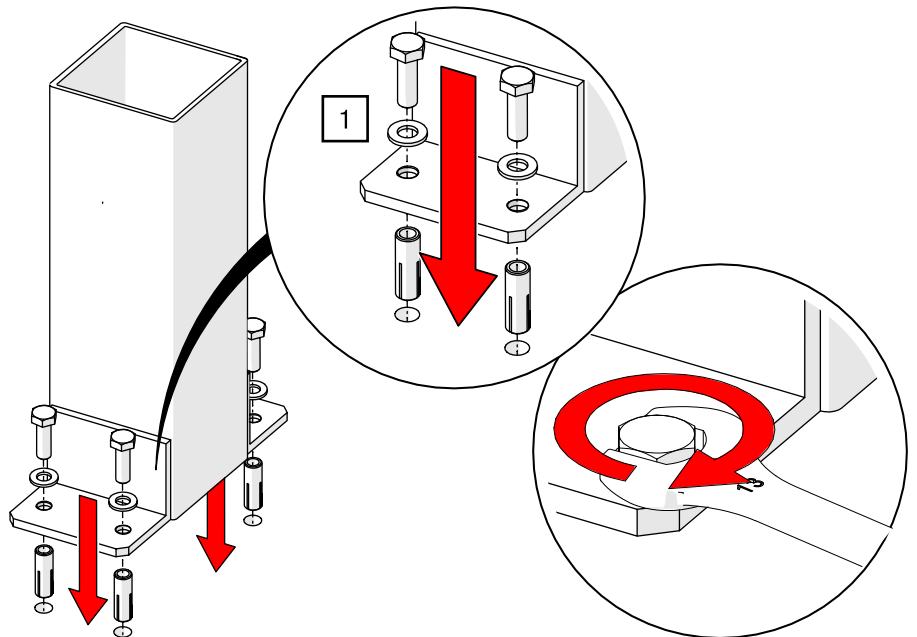

Fig. 130: Self-tensioning floor pulley with counterweight – Fastening the guide sleeve
1. Fasten the guide sleeve of the self-tensioning floor pulley vertically below the downward guide pulley using mounting hardware suitable for the supporting structure (installation according to the manufacturer's instructions; example: concrete/screed – see Fig. 130).